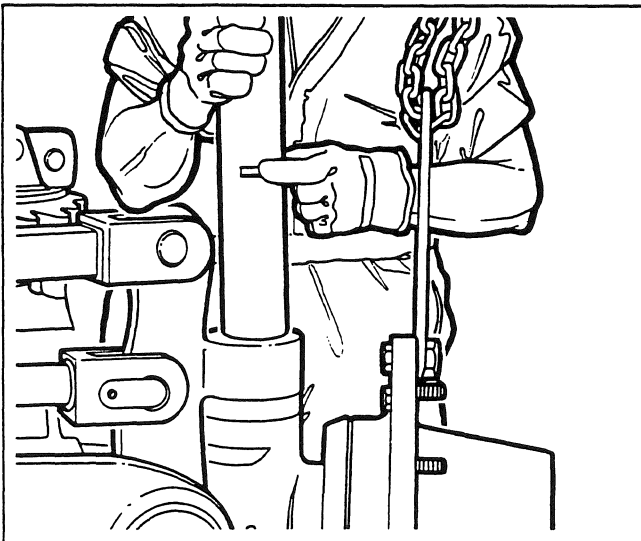

Fig. 12
4. Carefully install the king pin. Make sure you align the slot in the king pin with the tapped hole for the setscrew (49) (see Fig. 12). As previously stated, freezing the king pin helps make the installation easier. Install the setscrew to secure the king pin. Check to see that the spindle pivots freely on the king pin.